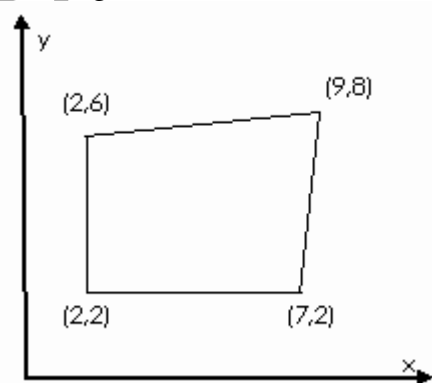

Figure: 3
8. Using a 2 x 2 rule evaluate the integral $\iint_A (3x + 2x^2 + xy^2) dx dy$ over the given area by Gaussian quadrature as shown in figure 3. [16]